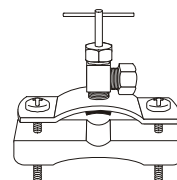

Figure 1
1. Positioning the Take-off Valve. (Refer Figure 1)